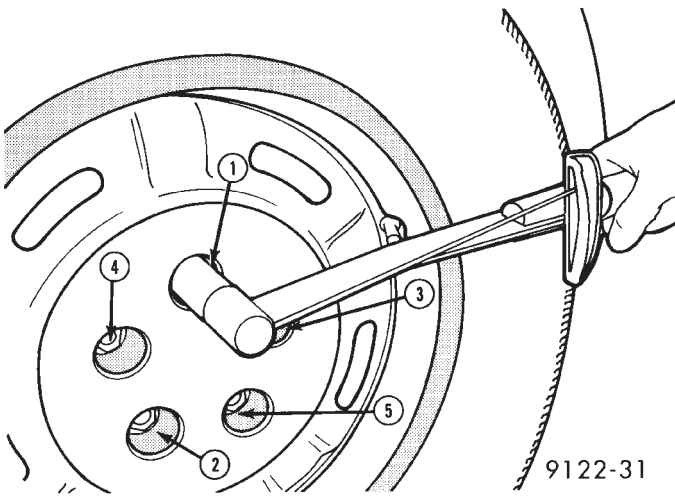

Fig. 9 Tightening Wheel Nuts
(8) Install the caliper guide pin bolts and tighten to 34 to 37 N•m (25 to 35 ft. lbs.). **Extreme caution should be taken not to cross the threads of the caliper guide pin bolts.**
(9) Install the wheel and tire assembly. Tighten the wheel mounting stud nuts in proper sequence (Fig. 9) until all nuts are torqued to half specification. This is important. Then repeat the tightening sequence to the full specified torque of 129 N•m (95 ft. lbs.).
(10) Remove jackstands or lower hoist. **Before moving vehicle, pump the brake pedal several times**